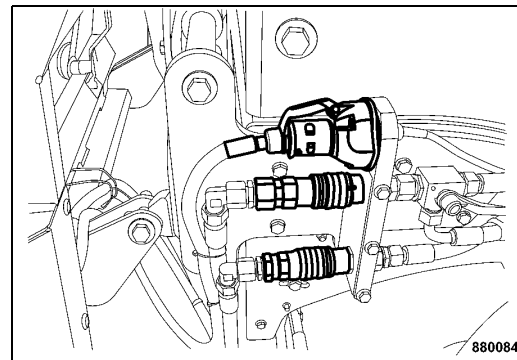

Fig. 130
- Check hydraulic lines (Fig. 130) for leak tightness.